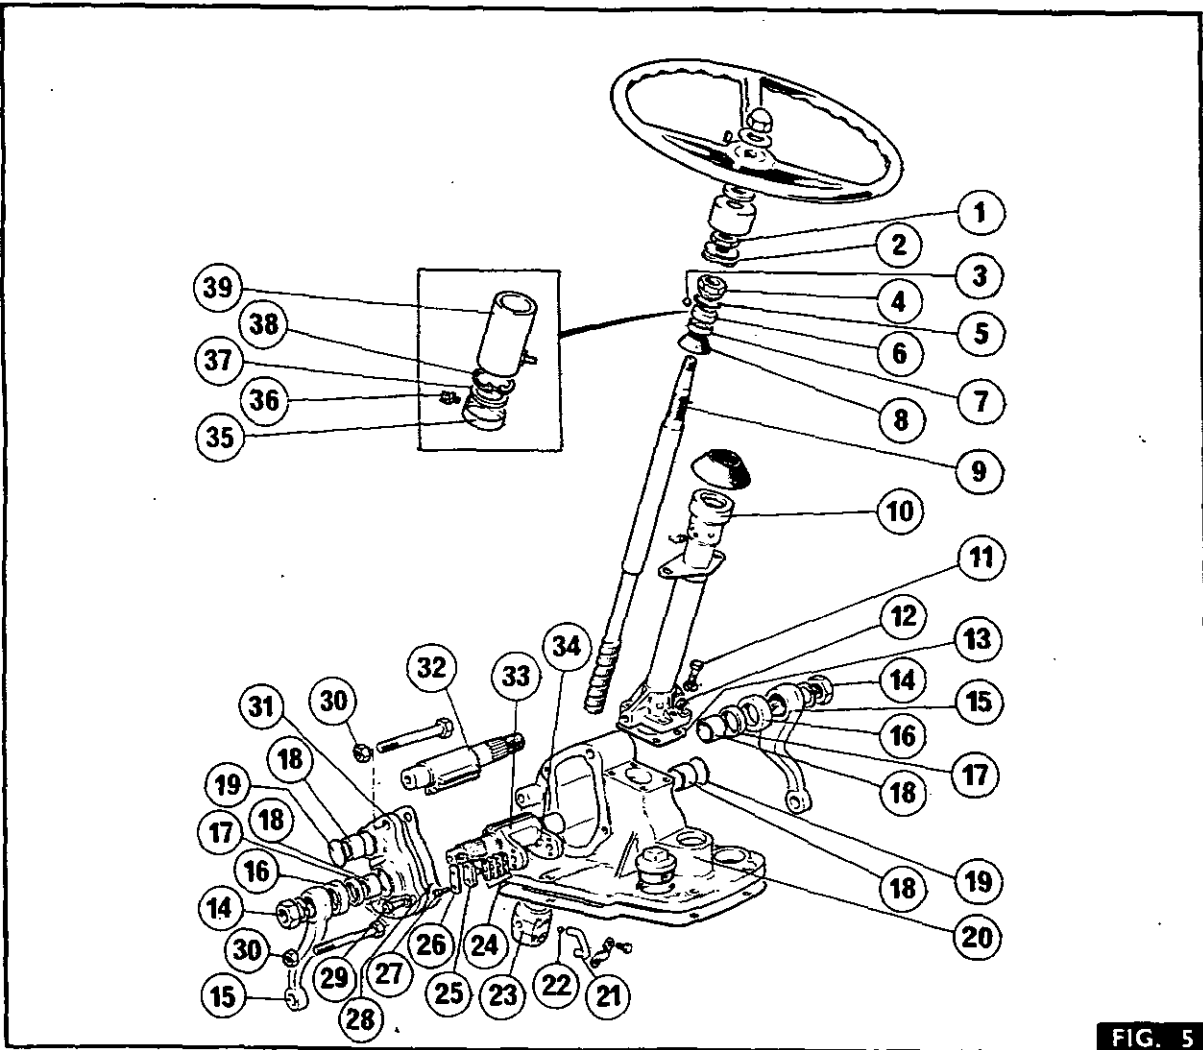
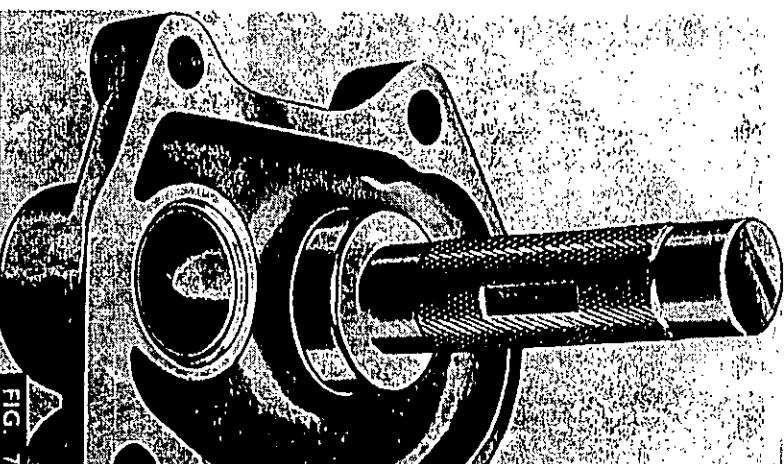

FIG. 5
FIG. 7
3. Fig. 5. Remove the nuts (14) and washers securing the drop arms (15) to the rocker shafts, then using the puller P1007C remove each drop arm and felt-seal (16) from the rocker shafts.
6. Fig. 5. Fit a new felt washer (16) to each rocker shaft, then refit the drop arms (15) aligning the master splines, and secure the drop arms with the two nuts (14) and washers tightened to a torque of 34,5 kg-m (250 lb-ft).
- 2d. Fig. 5. Remove the screw (36) and washer securing the retainer (35) to the outer ball race (39) and slide the retainer and the felt seal (37) on to the tube (10).
- 2e. Using the circlip pliers 7066 remove the circlip (38) from the outer ball race (39).
3. Fig. 5. Remove the plug (12) and drain off the oil.
1. Fig. 7. Position a bush (18) squarely over its hole and drive in the bush using the adapter MF 263-1 and the 550 handle, as shown.
3. Secure the cover plate (31) to the steering box and ream through each pair of bushes using the reamer MF 19A.
4. Remove the cover plate and thoroughly clean out all the swarf from the steering box (20).
5. Fig. 5. Fit a new seal (8), ball ring (7) and ball race (6) onto the column (9).
6. Position the 12 balls (3) in the tube (10), using grease to retain them, then lower the tube onto the column, taking care not to dislodge any of the balls.
- 7a. Place on the tube (10) the retainer (35), a new felt seal (37) and a new circlip (38).
- 7b. Lower the tube (10) onto the column, then position the 12 balls (3) in the outer ball race (39), using grease to retain them, and slide the outer ball race over the column, taking care not to dislodge any of the balls and locate the ball race on the tube.
8. Fit a new seal (5) to the adjustable race (4) then fit the adjustable race to the column. Tighten the adjustable race to 1.4 kg-m (10 lb-ft), then slacken off one flat to bring a flat adjacent to the tabwasher keyway.
9. Fit a new tabwasher (2) and the locknut (1) and secure the adjustable race (4) and the locknut with the tabwasher.
10. Place the main nut (23) onto the column and assemble the 28 balls (22) into the main nut channel. Turn the main nut to house the balls as they are assembled.
11. Fit new oil seals (17) and dished washers (19) to the steering box (20) and cover plate (31).
2. Fig. 5. Remove the nut (14) and washer securing the L.H. drop arm (15) to its rocker shaft (33), then using the puller P1007C remove the drop arm, and the felt seal (16).
5. Place a suitable container beneath the cover plate (31) and remove the two bolts (29) and washers and the two nuts (30) securing the cover plate to the steering box.
6. Remove the cover plate and the gasket (28) from the steering box, taking care not to damage the oil seal (17).